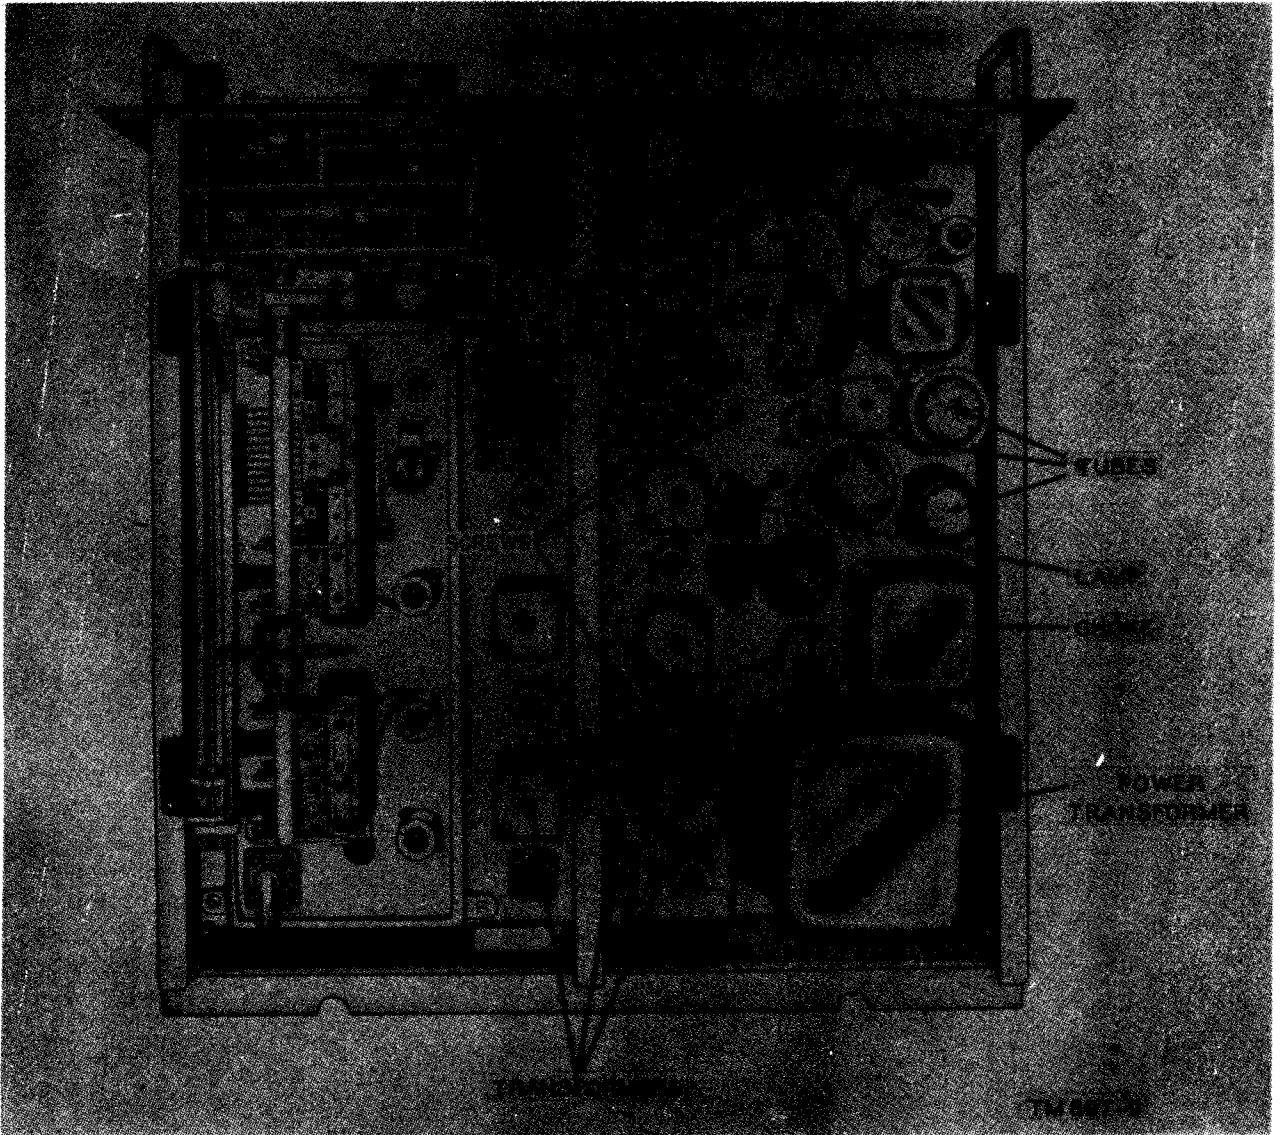
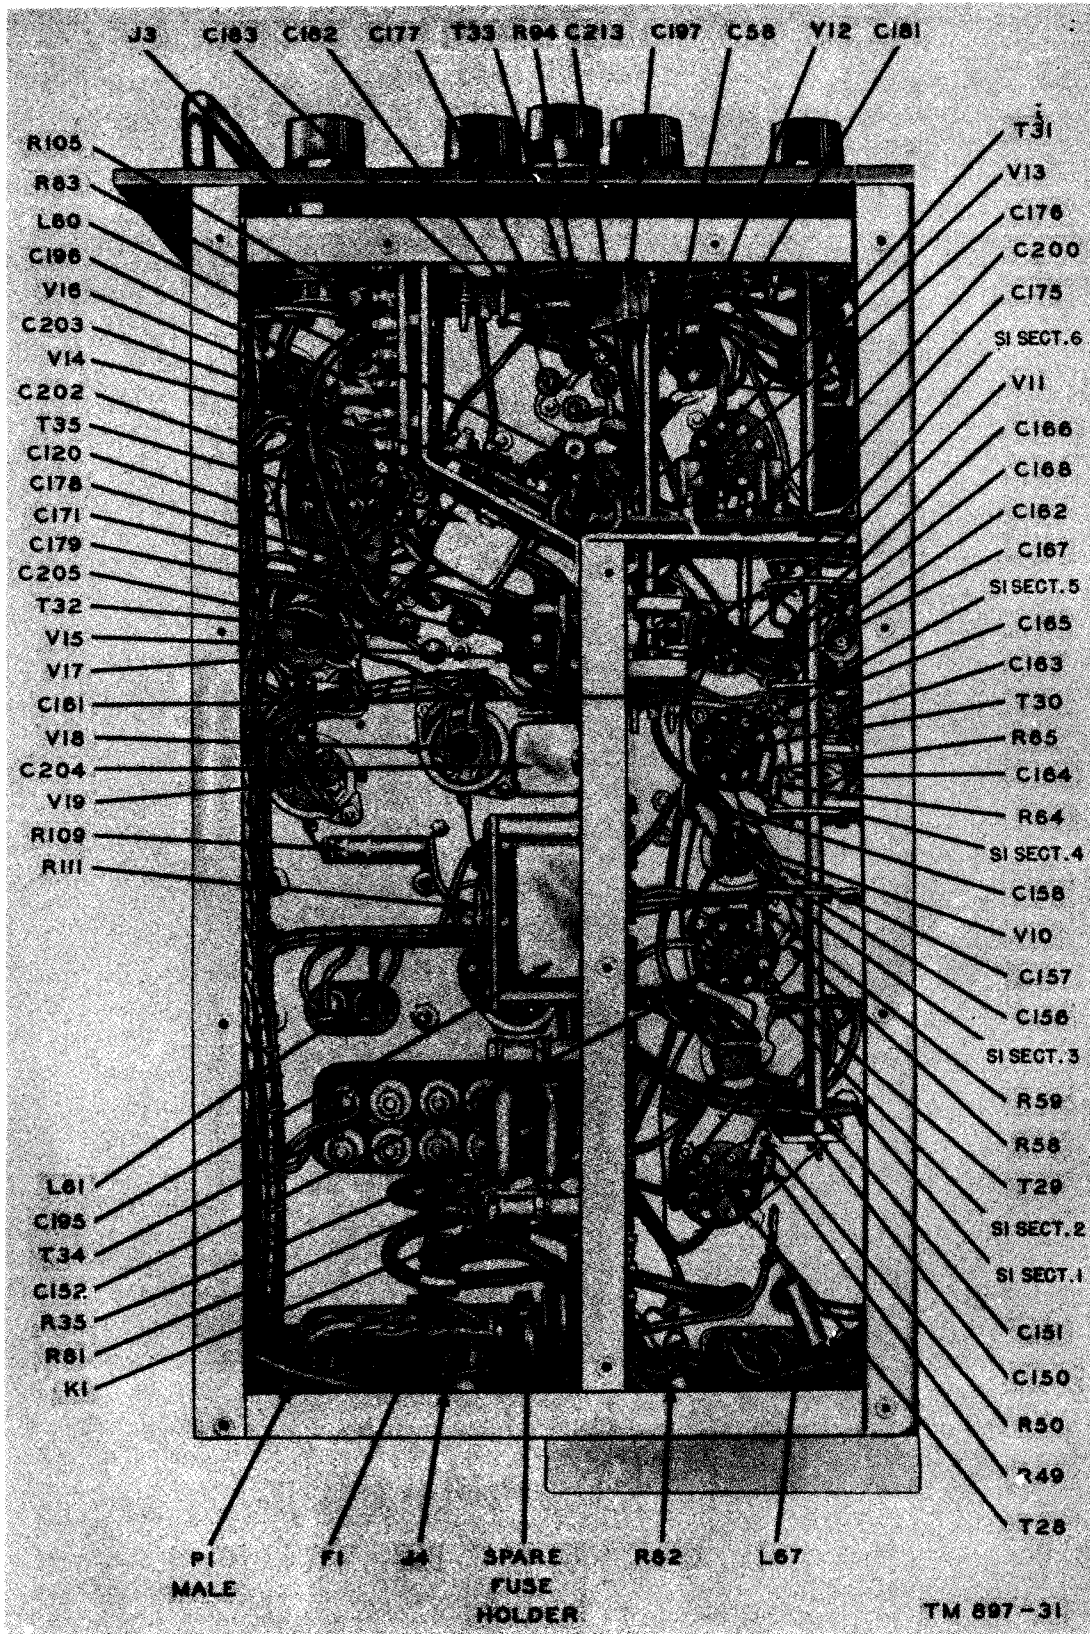
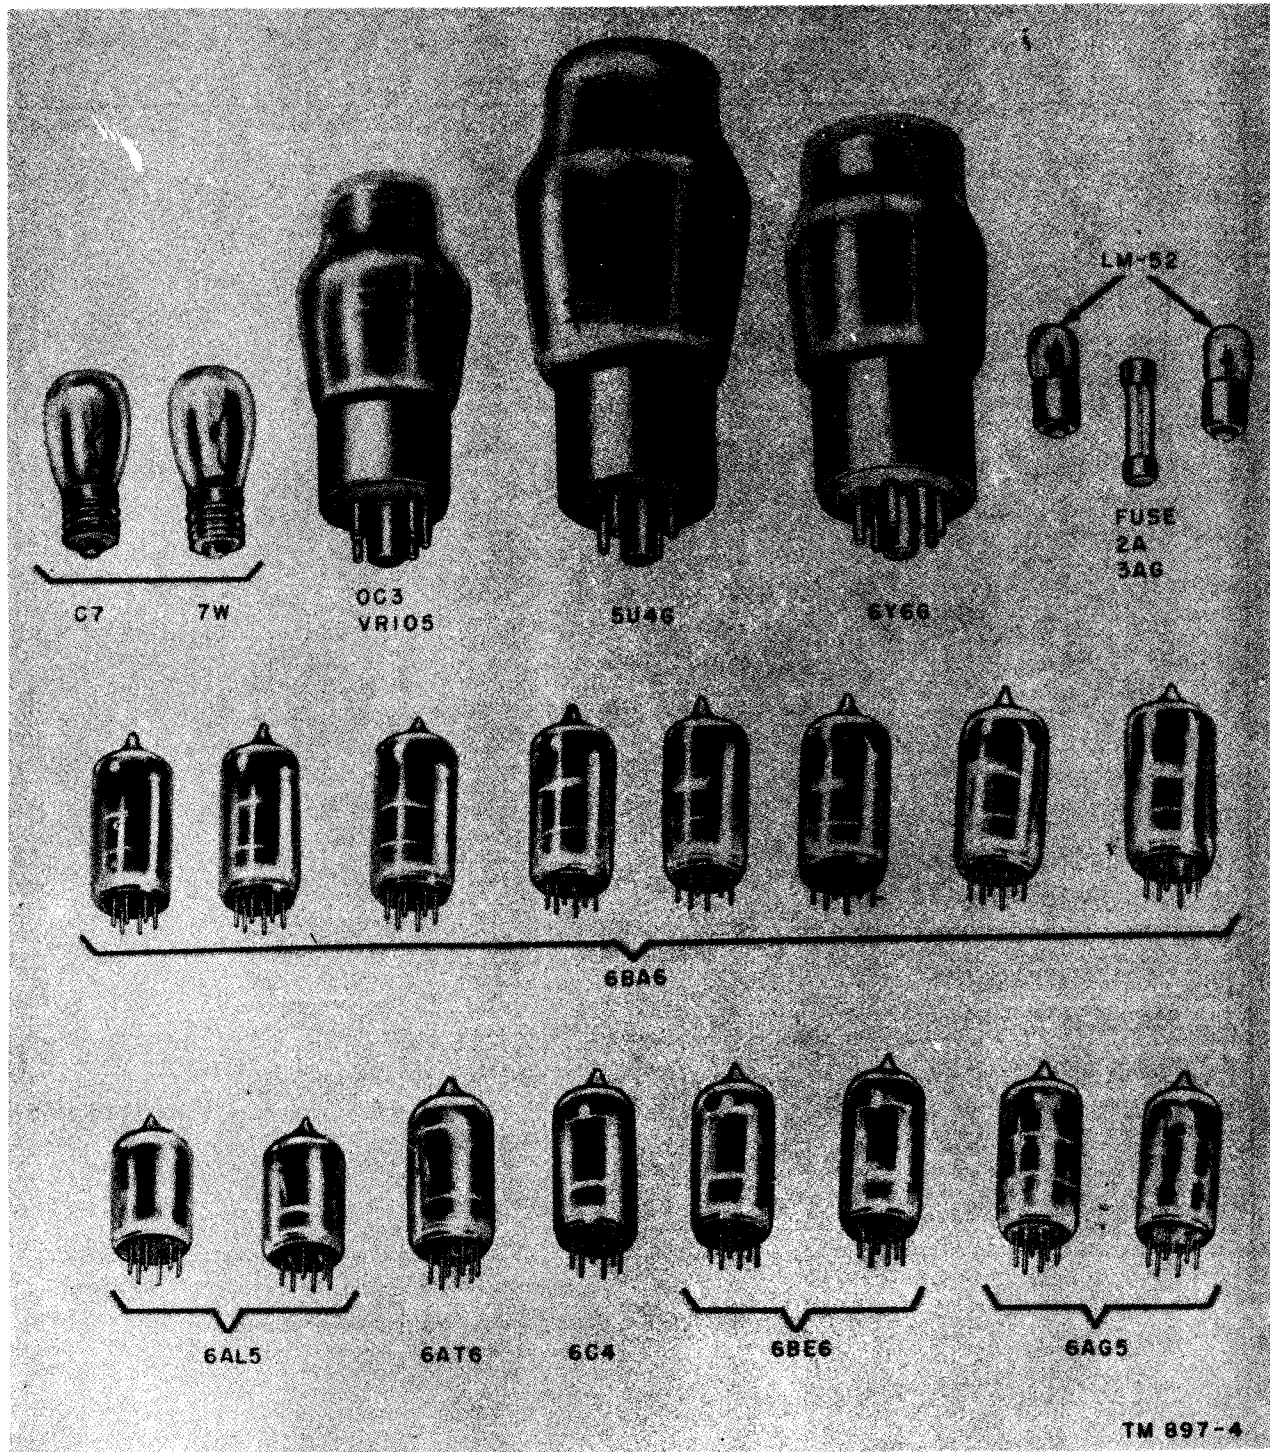

Figure 32. Radio Receiver R-274/FRR, r-f chassis, bottom view.
Figure 33. Radio Receiver R-274/FRR, i-f and audio chassis, bottom view.
Figure 34. Radio Receiver R-274/FRR, 2d mixer and 6.455-mc oscillator, bottom view.
- (1) Remove the springs from the coupling between the tuning gang capacitor shaft and dial-drive mechanism.
- (2) Remove the dial pointer and dials.
- (3) Remove the three screws which hold the dial drive to the chassis. Openings in the front plate are provided to gain access to these screws.
- (4) Slide the drive forward and upward, pulling away from the chassis.
- (5) To replace the assembly, reverse the above steps. Do not use too much force on any of the shafts. Forcing may result in bending the component parts. The dial-drive mechanism requires special adjustment to assure alignment of the dial scale with the tuning gang. See paragraph 80b for the instructions.
*c. Selectivity Switch (fig. 33).* Selectivity switch S1 is disassembled from the bottom of the chassis as follows:
- (1) Remove the top and bottom dust covers.
- (2) Disconnect all the leads to the switch gang terminal.
- (3) Remove the four screws which hold the terminal board through which the shaft passes.
- (4) Remove the nut on the shaft mounting bushing by using a ½-inch open-end wrench.
- (5) Remove the screws in the bracket which hold the rear end of the switch to chassis. This is done by unscrewing the two No. 6-32 screws from the top of the chassis. Leave the bracket fastened to the switch.
- (6) Slide the switch toward the rear of the chassis and lift it out. Use caution to prevent breakage of other components.
- (7) Replace the switch by reversing the above steps. Be careful not to break the leads.
*d. Second Mixer and 6.455-MC Oscillator Chassis (fig. 34).* All the components of the 2d mixer and 6.455-mc oscillator are mounted on a subchassis located at the rear of the i-f section of the main chassis. A cut-out on the rear makes voltage and resistance measurements possible. Remove the subchassis in the following manner:
- (2) Unsolder the three leads to the feed-through capacitors C209, C210, and C211 (fig. 34).
- (3) Remove the four No. 8-32 screws from the edge of the subchassis.
- (4) Slide the subchassis upward and, at the same time, feed the coaxial cables through the holes.
- (5) Replace the subchassis by reversing the above procedure.
*e. R-F Turret (fig. 32).* The removal of the turret from the chassis is easily accomplished by two men. Take out all the individual coil sections before removing the turret; this will prevent serious damage to these sections. The turret is fastened to a shaft at the front and rear. Remove the turret from the chassis as follows:
- (1) Loosen the two setscrews on the dial mask drive gear which is fastened on the extension shaft near the front panel.
- (2) Loosen all the setscrews on the nylon shaft coupling.
- (3) Pull the knob and extension shaft out from the front panel.
- (4) Loosen the end play adjustment nut on the shaft bushing (unscrew toward the front of the chassis).
- (5) Rotate the turret by hand until it is possible to loosen the two holding steel screws at each end of the turret shaft. Remove these screws.
- (6) While one man holds the turret to prevent the stationary contacts from being bent or broken, the second man should tap the shaft until it protrudes from the back of the chassis. The detent spring will have a tendency to push the turret away from the chassis. The turret should be held in the normal position until the shaft is completely removed from the back of the chassis.
- (7) Lift the turret from the chassis, taking care not to bump it against any of the chassis components.